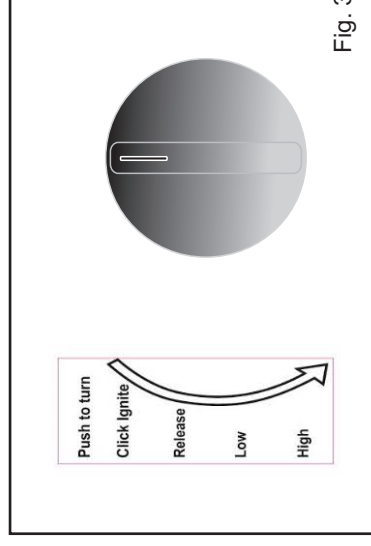

Fig. 3
- This appliance is fitted with an Oxygen Depletion Sensor for your safety ( See Fig 3). Its function is to shut down the gas supply to the appliance in the event of a burner flame out or other malfunction. **Do not interfere with or remove or modify this device.**
- The appliance is fitted with a Piezo Ignitor built into the control valve which automatically ignites the gas grate when the control valve knob is turned to the ignite position and does not require the use of a lighter or matches to light it. (see Figs. 3 & 4)